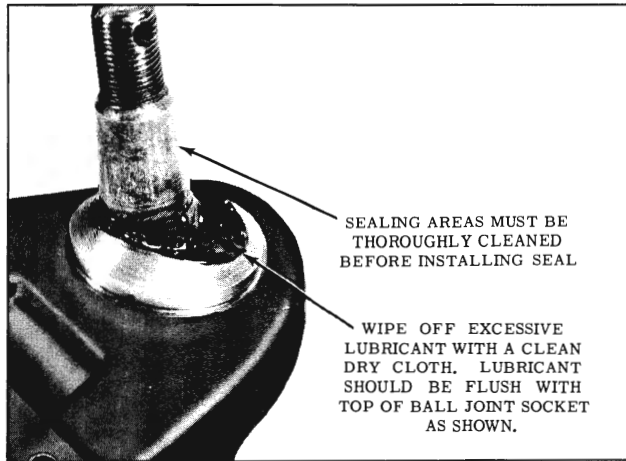

Fig. 5-12 Ball Joint Prior to Installing Seal
585617, lubricate ball joint until clean grease completely fills the ball joint reservoir. (Figs. 5-12 and 5-13)
7. Install plug in ball joint cover, then clean grease from ball joint stud and sealing area of joint with a clean dry cloth. (Figs. 5-12 and 5-13)